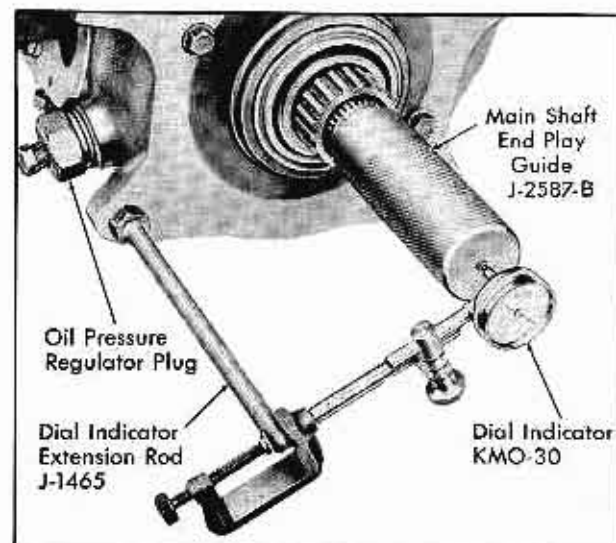

Fig. 14-22 Checking Mainshaft End Play
1. Install Mainshaft End Play Guide, Tool No. J-2587-B over mainshaft and intermediate shaft. Fig. 14-22.